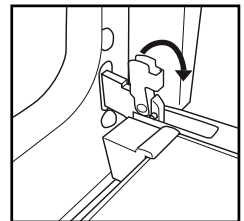

Fig. 1
2. Lift the catches and push them forwards as far as they will go (fig. 1).
1. Insert the wire shelf horizontally, with the raised part "A" upwards (Fig. 1).